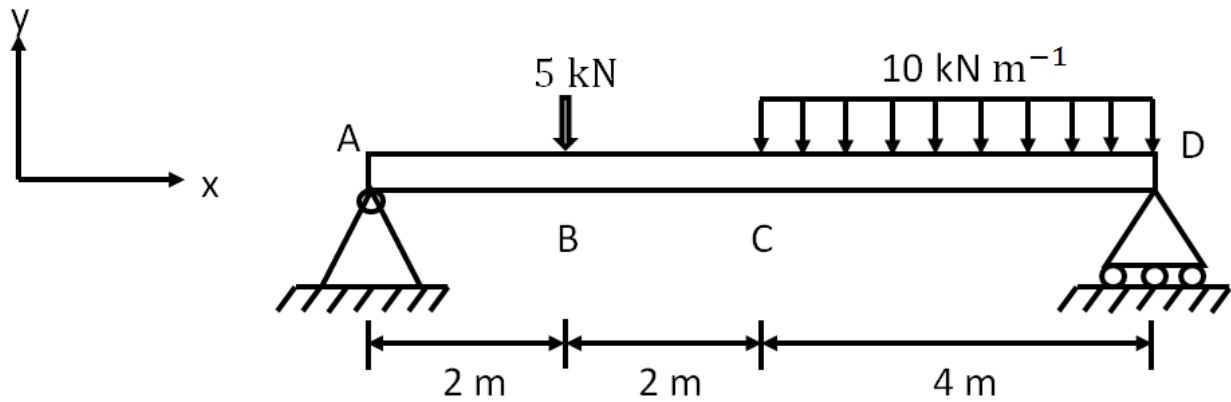

Fig. Q 3 (c)
- (c) Use unit load method to find the deflection at the center of the beam shown in Fig. Q 3 [14 marks]